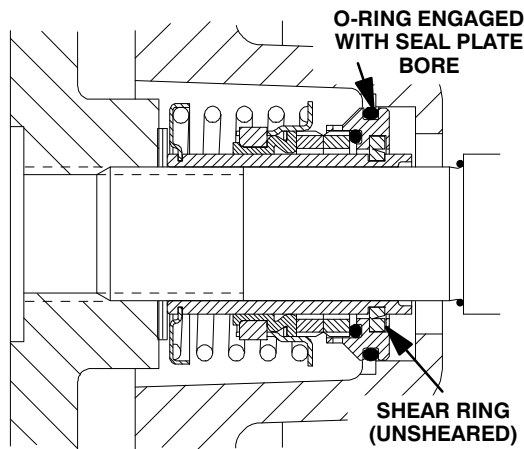

Figure 10. Seal Partially Installed
Clean and inspect the impeller as described in **Impeller Installation and Adjustment**. Install the full set of impeller shims (26) provided with the seal, and screw the impeller onto the shaft until it is seated against the seal (see Figure 10).